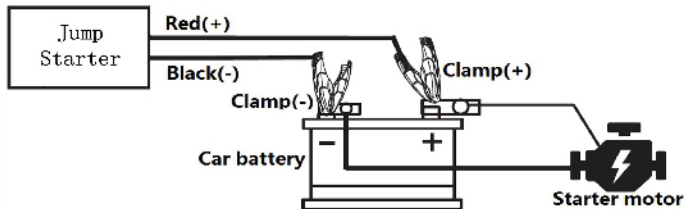

Figure 2: Restore the connection
- E. Shut down:** After the car is started successfully, keep all the connections (otherwise it may damage the ECU), and restore the connection of the start cable and the battery pole firstly (See Figure 2), and then press the ON/OFF button to turn off the starter and then disconnect the clamps from the battery (If start fails, repeat operation of steps B-D. If you repeat more than three times, wait 10 minutes before proceeding. Or check other malfunctions).